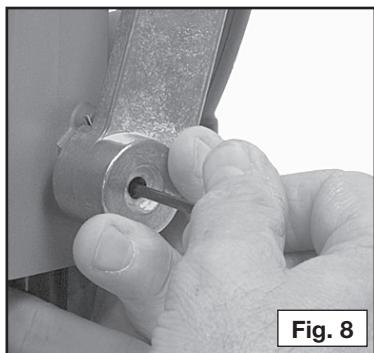

Fig. 8
2. Insert a 1/8" hex wrench (not furnished) into the adjusting screw (see Fig. 8) and turn counter-clockwise approximately 1/2 turn.